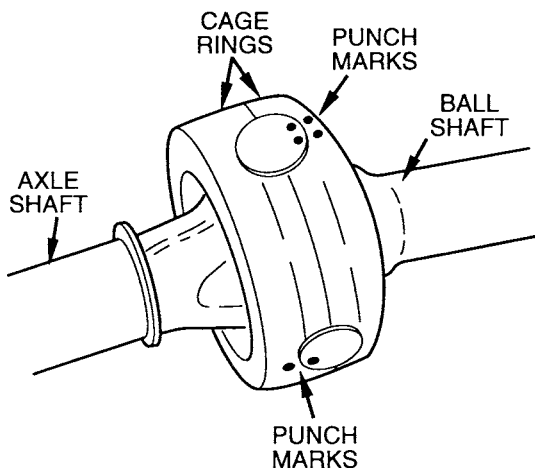

Figure 2 Match Marking Axle Shaft
7. Remove bearing nut (57) from skein (39) using wheel bearing wrench.
8. Remove outer bearing cone (53) from hub (55). If reusing bearing cone, keep in matched sets and tag for proper reassembly.
9. Remove hub (55) from skein (39).
10. Using drift, drive seal (51) and spacer (52) from hub (55).
11. Remove inner bearing cone (53) from hub (55).
12. If bearing cups (54) are worn or damaged, use a drift to drive both bearing cups from hub (55).
13. Mark spider and ball socket for proper reassembly. Remove ten bolts (49) and washers (50) from skein. Remove skein (39) and spider (35) from ball socket (16).
15. Mark cage ring halves and both axle shafts using a punch. (See Figure 2).